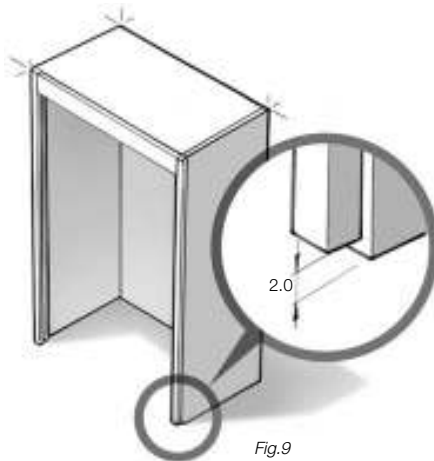

Fig. 9
- Position 2 mm from the bottom edge of the carcass (Fig. 9).